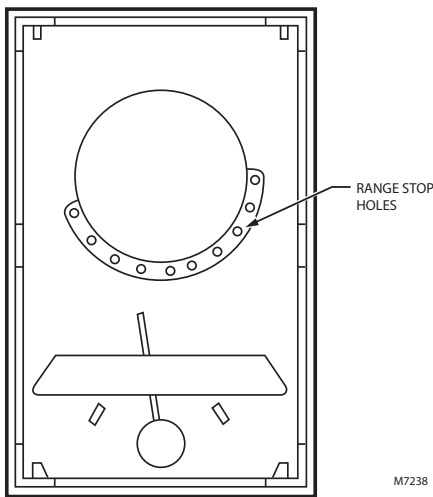

Fig. 5. Range stop installation.
2. Install the plastic dowels (included) into the minimum and/or maximum range stop holes on the inside back of the cover. See Fig. 5.